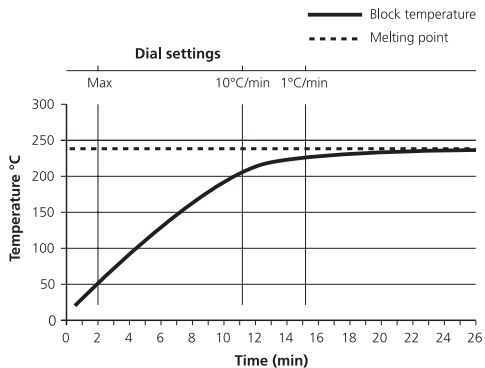

Fig 6
6. In order to achieve a fast and accurate melting point range it is important to use a rapid heating rate as the sample heats up from ambient and a much reduced heating rate as the sample approaches melt, see Fig 6 for an ideal heating curve for a sample with a melting point of 240°C.